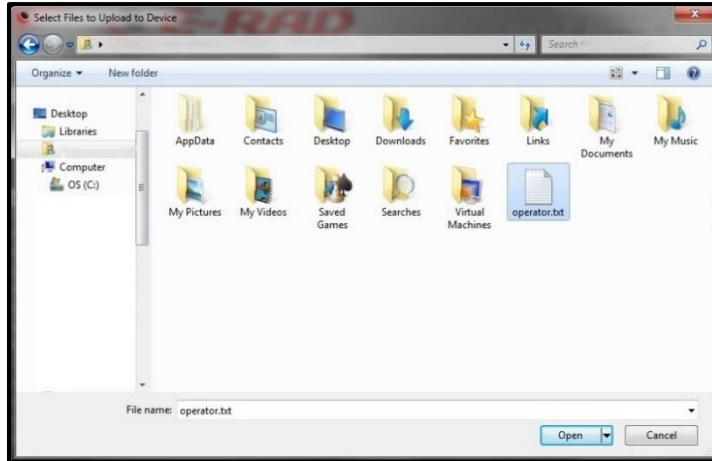

Figure 6.7-3: File Explorer Window
**Result:** A File Explorer Window will appear (Figure 6.7-3).